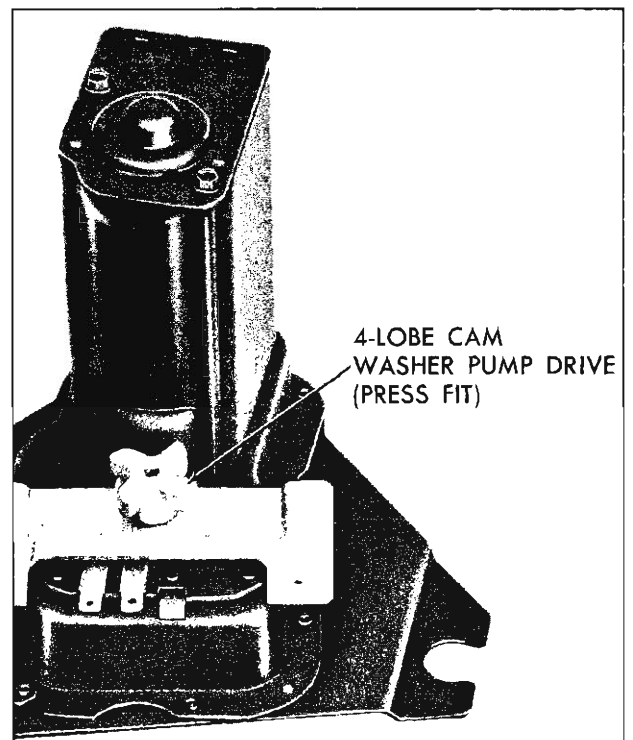

Fig. 59—Washer Pump Drive Cam Removal
2. Remove washer pump drive cam as required (fig. 59). The cam is pressed on the shaft but can be wedged off by using two screwdrivers between cam and plate.